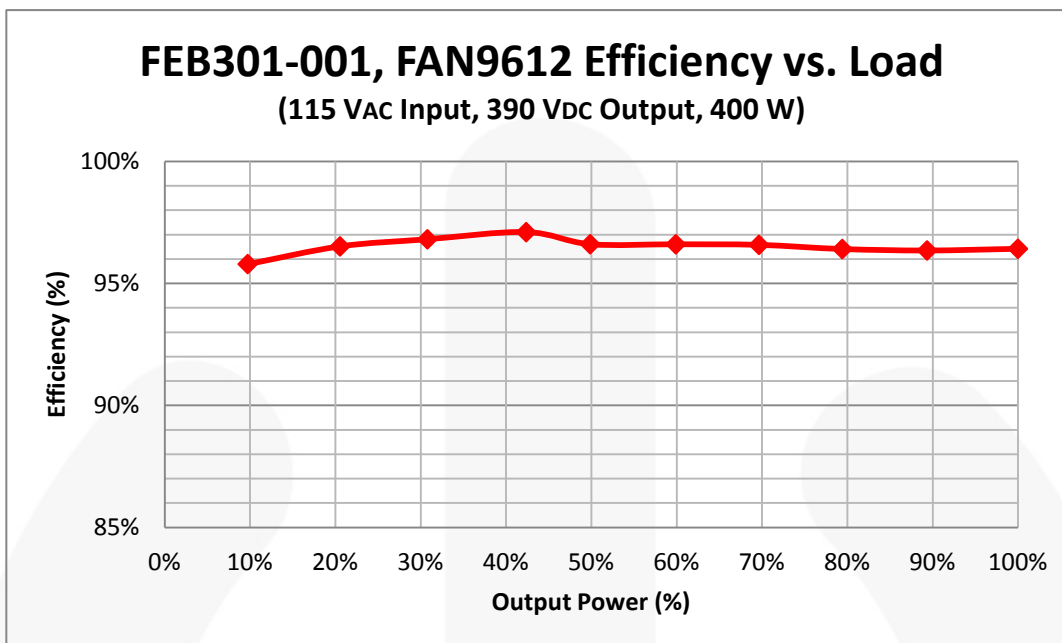
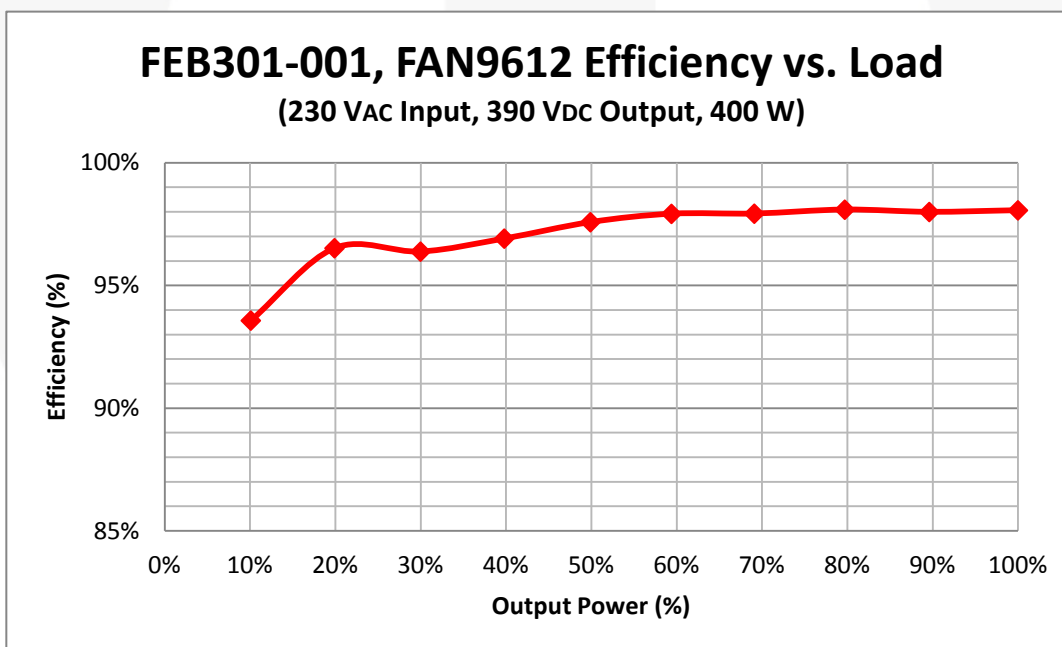

Figure 27. 115V_{AC} / 60Hz Efficiency vs. Load
Figure 28. 230V_{AC} / 50Hz Efficiency vs. Load
- Figure 27 and Figure 28 show the measured efficiency of the evaluation board at input voltages of 115V_{AC} and 230V, respectively. Since phase shedding reduces the switching loss by effectively decreasing the switching frequency at light-load, a greater efficiency improvement is achieved at high line where switching losses are greater. Relatively less improvement is obtained for low line since the MOSFET is turned on with zero voltage and switching losses are negligible.